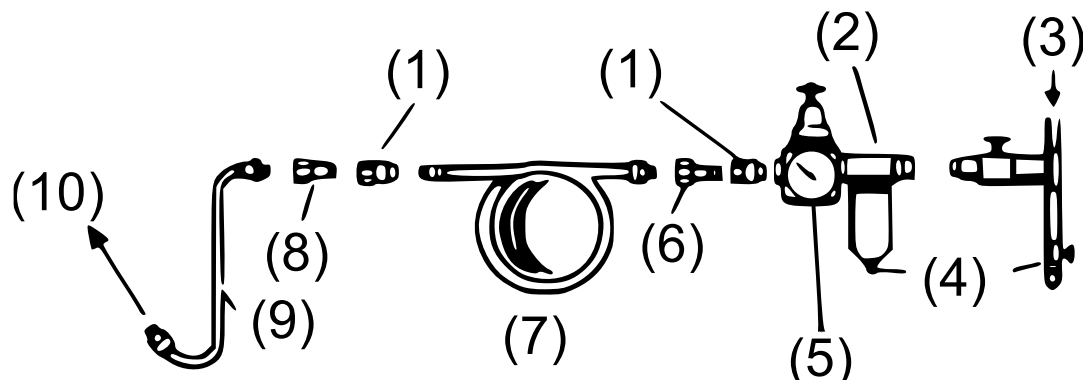

Figure 1
- If possible, the compressor should be placed in a separate room, and the connecting line be kept as short as possible. The compressor should have an air filter and a water separator (see Fig. 1).
- The recommended connection procedure is shown in Fig. 1.